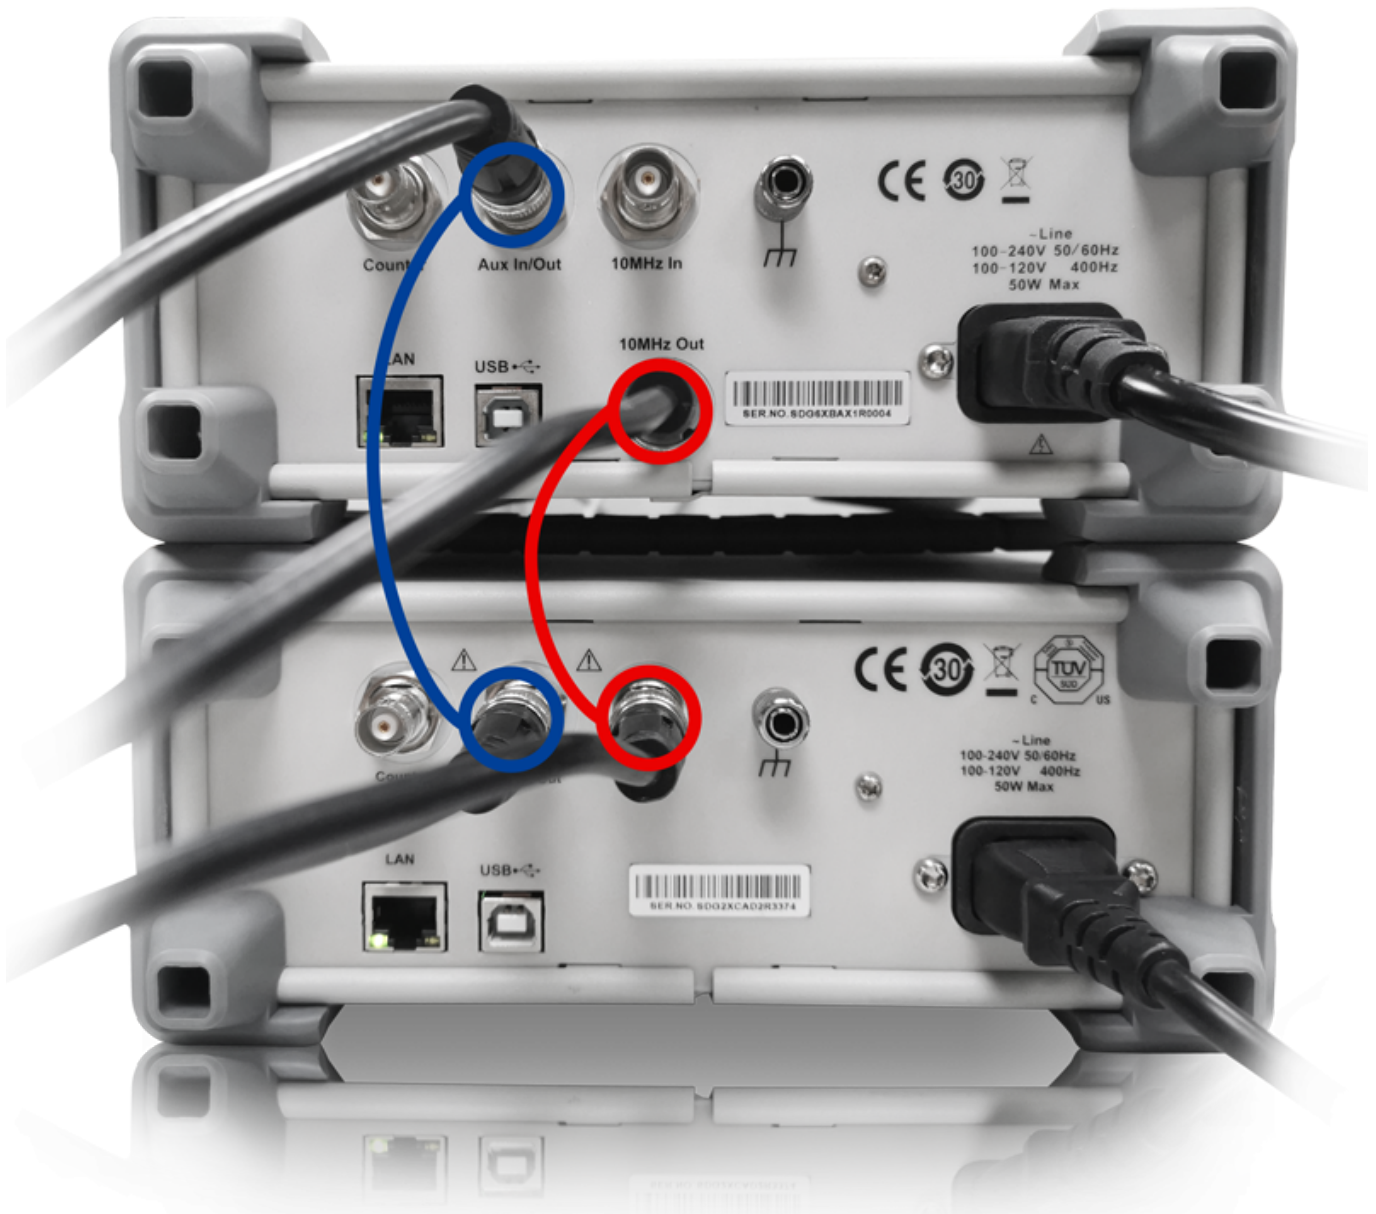

Figure 3. Connect Master 10 MHz Out to Slave 10 MHz In
**2)** Next connect the SDG6000X 10 MHz Out port with the SDG2000X 10 MHz In/Out port, as shown in Figure 3.